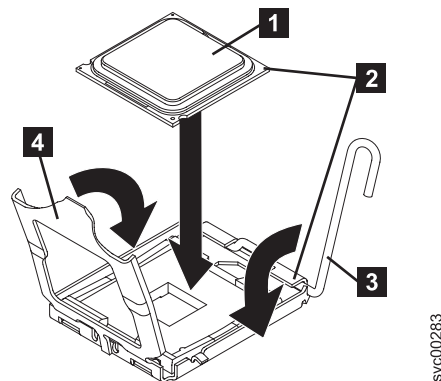

Figure 259. Aligning the microprocessor with the socket
4. Position the microprocessor **1** over the microprocessor socket, as shown in Figure 259. Use the triangular alignment cutout on the microprocessor socket and the triangular alignment mark **2** on the microprocessor to assist you in aligning the microprocessor to the socket. Then, carefully place the microprocessor onto the socket. Do not force the microprocessor. It only fits one way onto the socket.